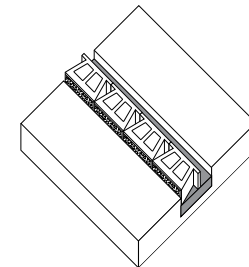

Figure 2
4. Over the rubble, lay 10 mm of washed concrete sand and make sure this is smooth and level. If this base is prepared properly, your first course of Stone Max blocks will be buried to approximately half their depth below ground level. (see figure 2)